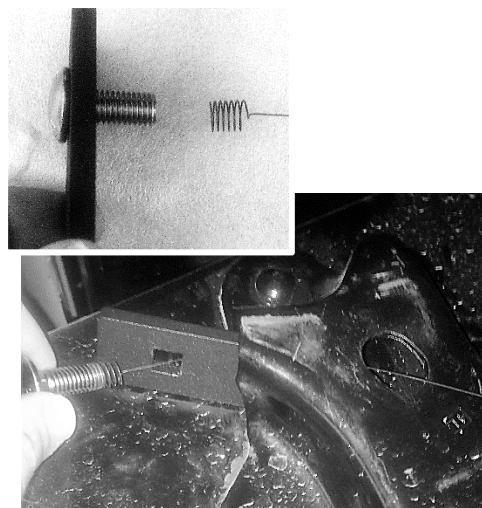

Figure 4
3. Insert one of the **M10x30mm Carriage Bolts** into a **Rear Bolt Spacer**, then thread a **Bolt Leader** onto the bolt thread. Next, feed the **Bolt Leader** wire through the upper opening of the rear suspension mount and then out of the hole. Next, feed the **Rear Bolt Spacer** through the upper opening and then pull the **Carriage Bolt** through the opening, through the spacer, and out through the frame hole. **Refer to Figure 4 and Figure 6**.